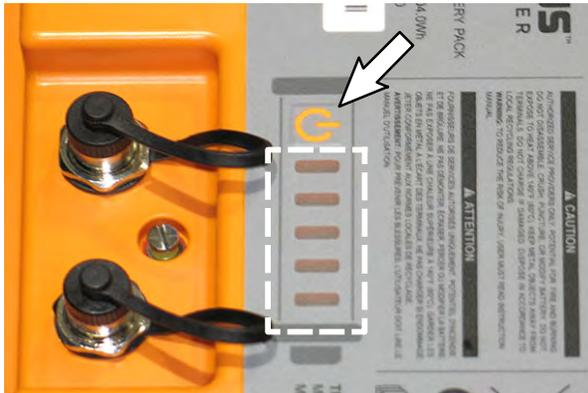

FIG. 15
1. Press and hold the power button on one of the lithium batteries for 20 seconds to turn the entire battery pack off. All batteries must be OFF prior to replacing the communication board. (Fig. 15)